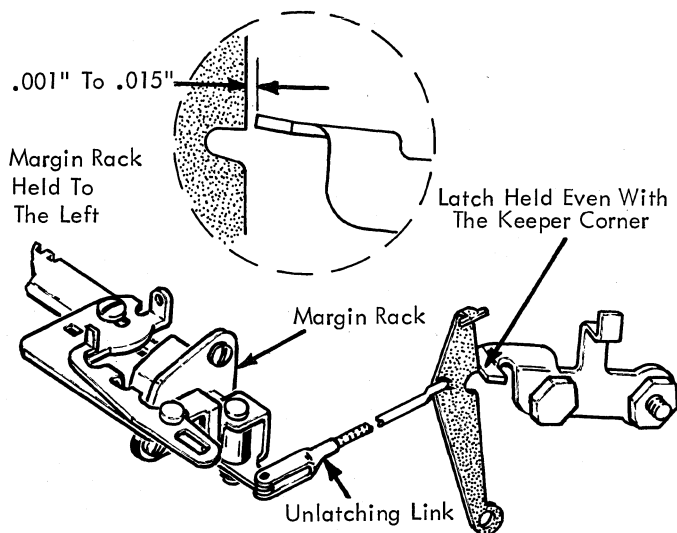

FIGURE 150.3 Clutch Unlatching Adjustment
5. Clutch Unlatching - Adjust the carrier return unlatching link to obtain .001" to .015" clearance between the carrier return latch and latch keeper at the point of unlatching (Fig. 150.3). Check by manually holding the latch at the unlatching point while the machine is idling.